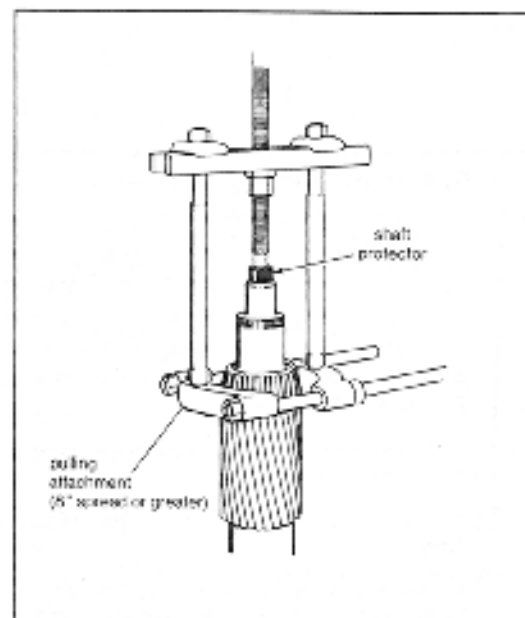

Fig. 34. Pulling Rear Pinion Shaft Bearing.
2. If rear pinion bearings are believed to be damaged or worn remove bearings and replace as necessary. See fig 34.